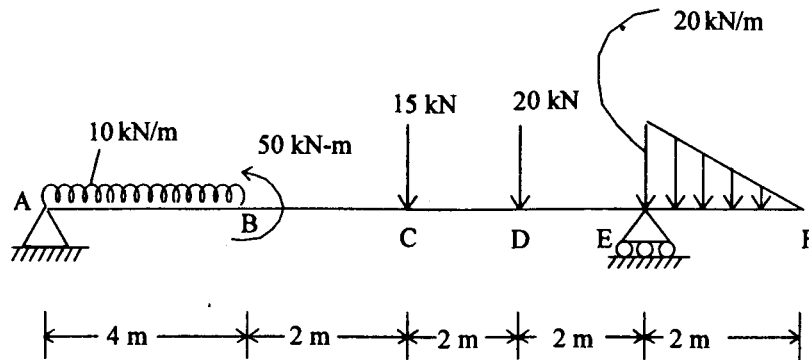

Fig. 8
- (b) Draw SFD and BMD for the following loaded beam (Fig. 8) and also locate point of contraflexure.